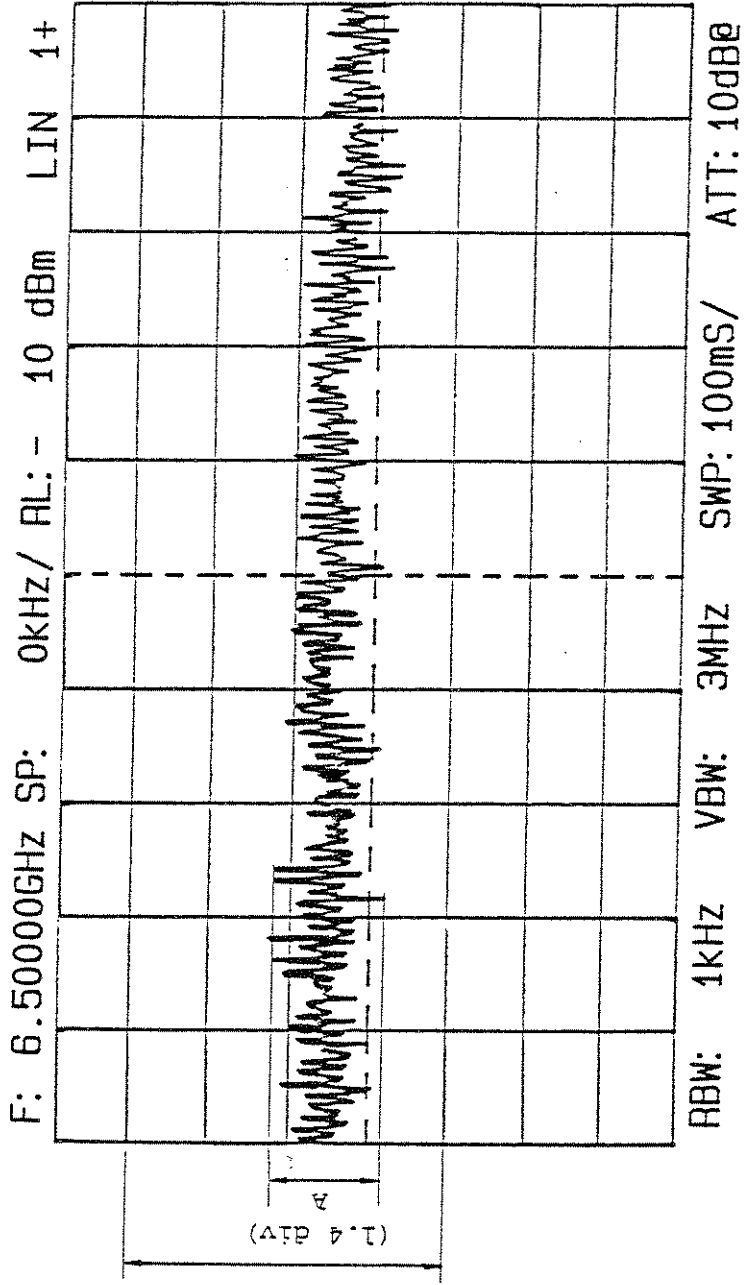

Fig. 8-14 Residual FM Test Sample CRT Display
5	Change the MS710[] settings to: NORMAL: WRITE A ON FREQ SPAN/DIV ZERO SWEEP TIME 100 ms/div Fine-adjust the center frequency of the MS710[] so that a trace is obtained between the second and sixth scale lines from the top of the CRT as shown in Fig. 8-14.
6	Find the maximum amplitude (A) of the trace data for one horizontal axis scale line (0.1 s) as shown in Fig. 8-14 (in the example, 1.4 div).
7	Calculate the residual FM from the following equation: $\text{Residual FM} = F \times A/4 \text{ Hzp-p}/0.1 \text{ s}$ <p data-bbox="422 521 1347 606">In the Fig. 8-14 example, since $F = 433 \text{ Hz}$, $A = 1.4 \text{ div}$,</p> $\text{Residual FM} = 433 \times 1.4/4 = 152 \text{ Hzp-p}/0.1 \text{ s}$